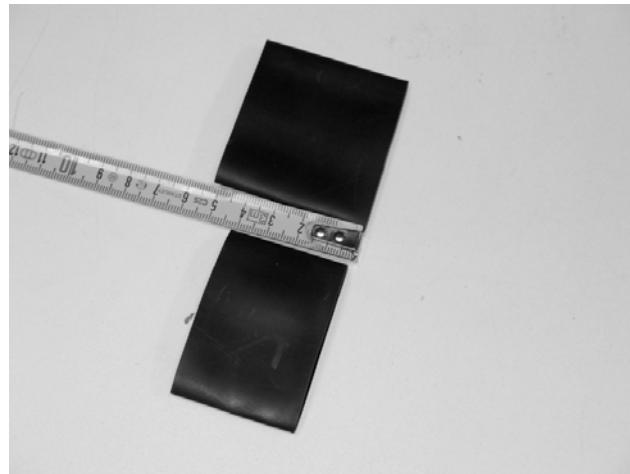

Figure 65: Preparing the cable connection heat shrink
14. Use the scissors or knife to cut a 4 cm section and a 5 cm section of heat shrink tube (see Figure 65).